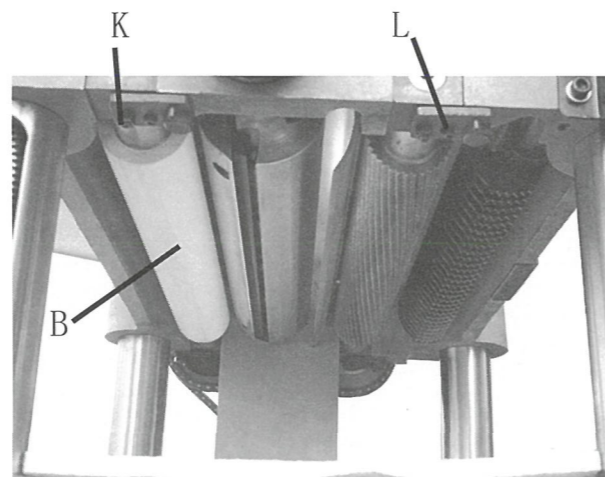

Fig. 27
4. Move the gage block under one end of the outfeed roller (B) as shown in Fig.27, The bottom of the outfeed roller should just touch the top of the gage block. If an adjustments to the outfeed roller is necessary, loosen the lock nut (K) Fig.27 and turn screw (L) Fig.27 until the outfeed roller just touches the gage block. Then tighten lock nut (K) as shown in Fig.27.